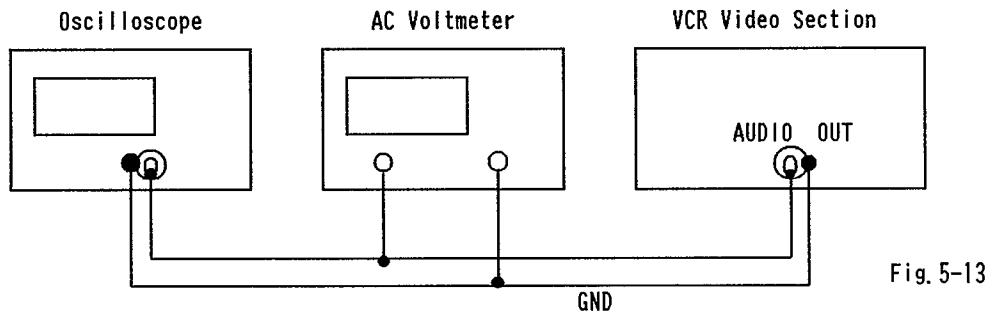
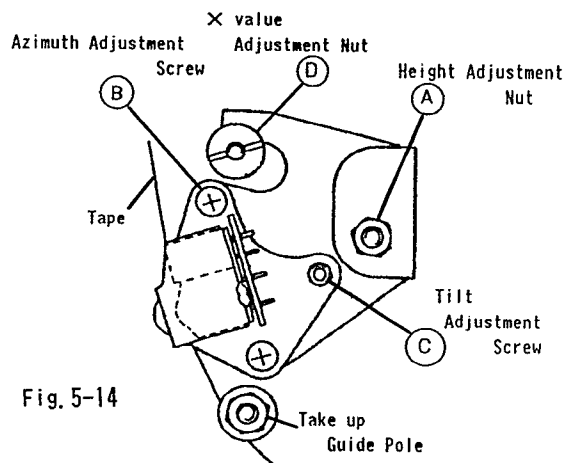

Fig. 5-13
Fig. 5-14
1. Connect equipment as shown in Fig. 5-13.
2. Confirm that the tape running between the take-up guide roller and Audio Control Erase head has no slack. If the tape has slack, take it up by turning the tilt adjustment screw (C). Then readjust GUIDE ROLLER HEIGHT in section 5-2 and the X value in section 5-4.
3. After confirming on the oscilloscope that a 1 kHz audio signal is being output by playing back F6-A test tape, adjust the height adjustment nut (A) so that the AC voltmeter's reading is brought to its maximum level (Refer to Fig. 5-14).
4. Adjust the azimuth adjustment screw (B) so that the AC voltmeter's reading is brought to its maximum level (Refer to Fig. 5-14).
Refer to Fig. 5-13
1. After confirming on the oscilloscope that a 6 kHz audio signal is being output by playing back F6-N test tape, adjust the azimuth adjustment screw ② so that the AC voltmeter's reading or oscilloscope waveform is brought to its maximum level (Refer to Fig. 5-14).